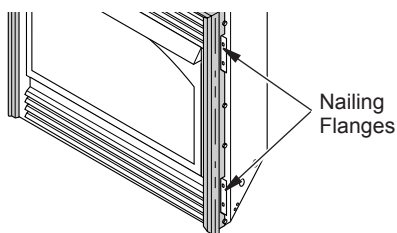

Figure 11 - Location of Nailing Flanges
7. Break off nailing flanges (see Figure 11, page 11) with hammer or pliers.